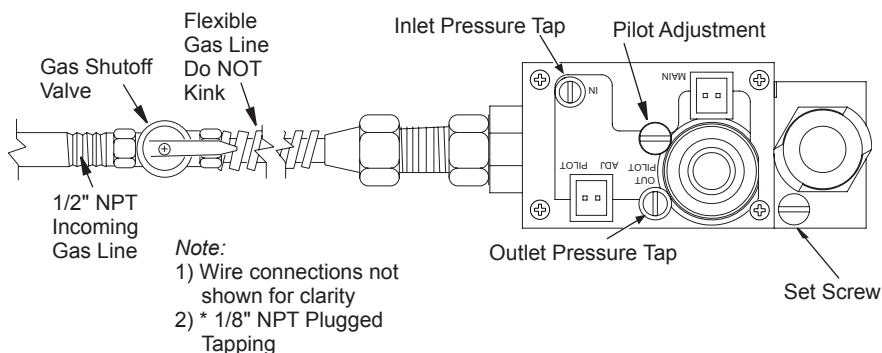

Figure 31 - Connecting Incoming Gas Line to Flex Gas Line
2. Attach flexible gas line from gas supply to control valve (see Figure 31, page 24).